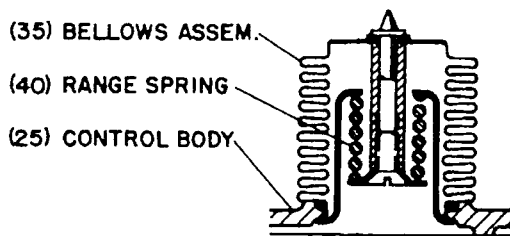

Figure 10. Range spring assembly
Instrument signal pressure range can be changed in the field by changing the range spring (40) as shown in Figure 10 from back side of control module. These springs are listed in Table 2 under "Spanstroke calibration".